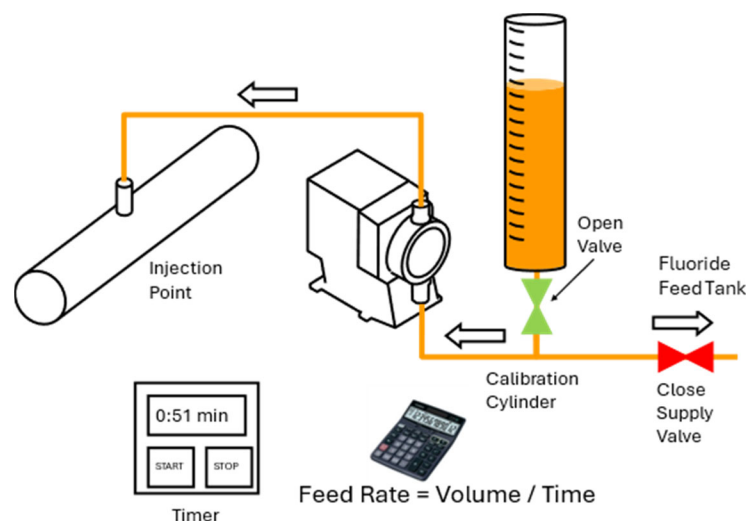

Figure 6-1 Calibration Schematic
- Open the valve at the bottom of calibration column to fill it to the 2 L mark (*Figure 6-1*).